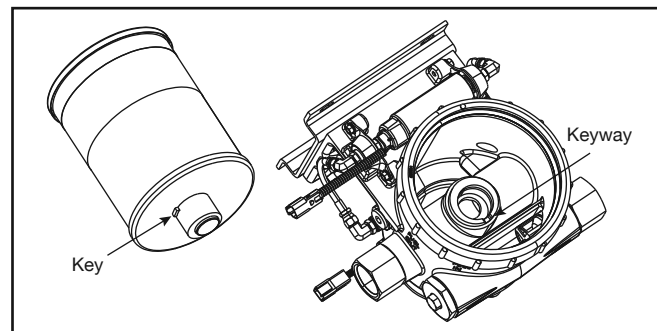

Figure 8 – Key and Keyway
10. Install the new filter element. Figure 8 shows a key on the filter which fits into a keyway on the center boss. Position the filter element so the filter element key is lined up with the keyway on the center boss of the housing and press the filter element into the housing. Ensure the filter element is fully seated by firmly pushing on the top end plate.